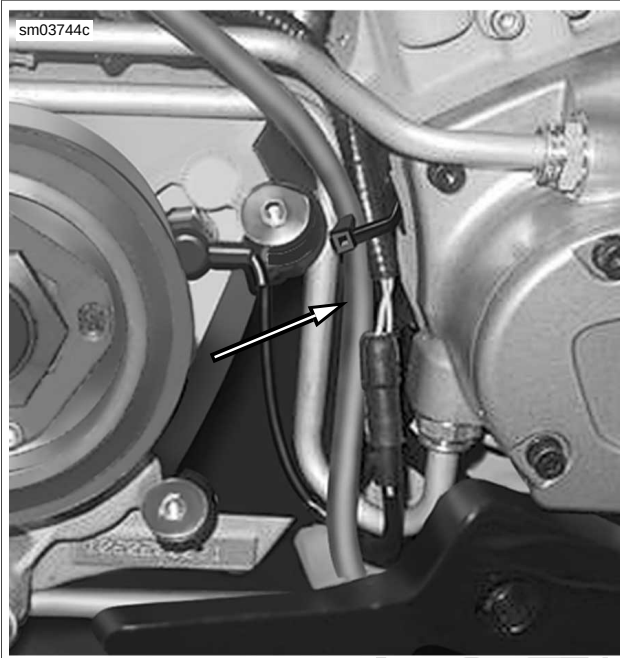

Figure 7-109. Correct routing of Interactive Exhaust Cable
5. See Figure 7-109. Route the interactive exhaust cable behind the oil pump body beside the neutral switch connection and the oil pressure switch wire and install a cable strap.